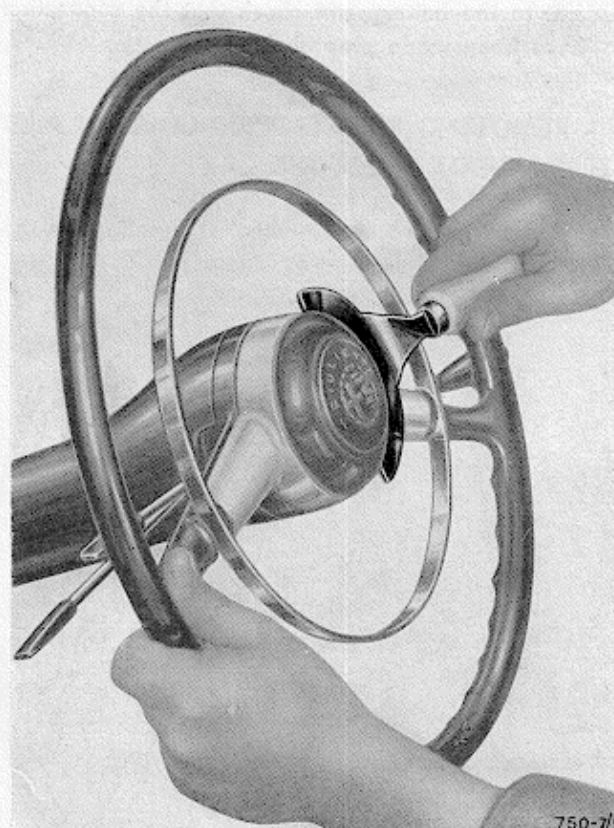

Fig. 5 - Withdrawing the push button for the light signals, using tool No. 6121.06.007
- 2) Using tool No. 6121.06.007 (Fig. 5) remove the push-button switch seat ring and the push-button itself.